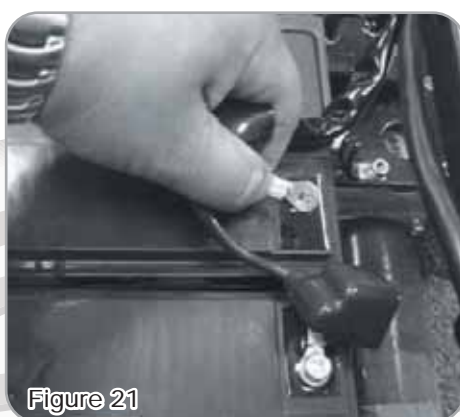

Figure 21
8. Follow steps 6 - 7 for another side of the cables. (See Fig. 21)